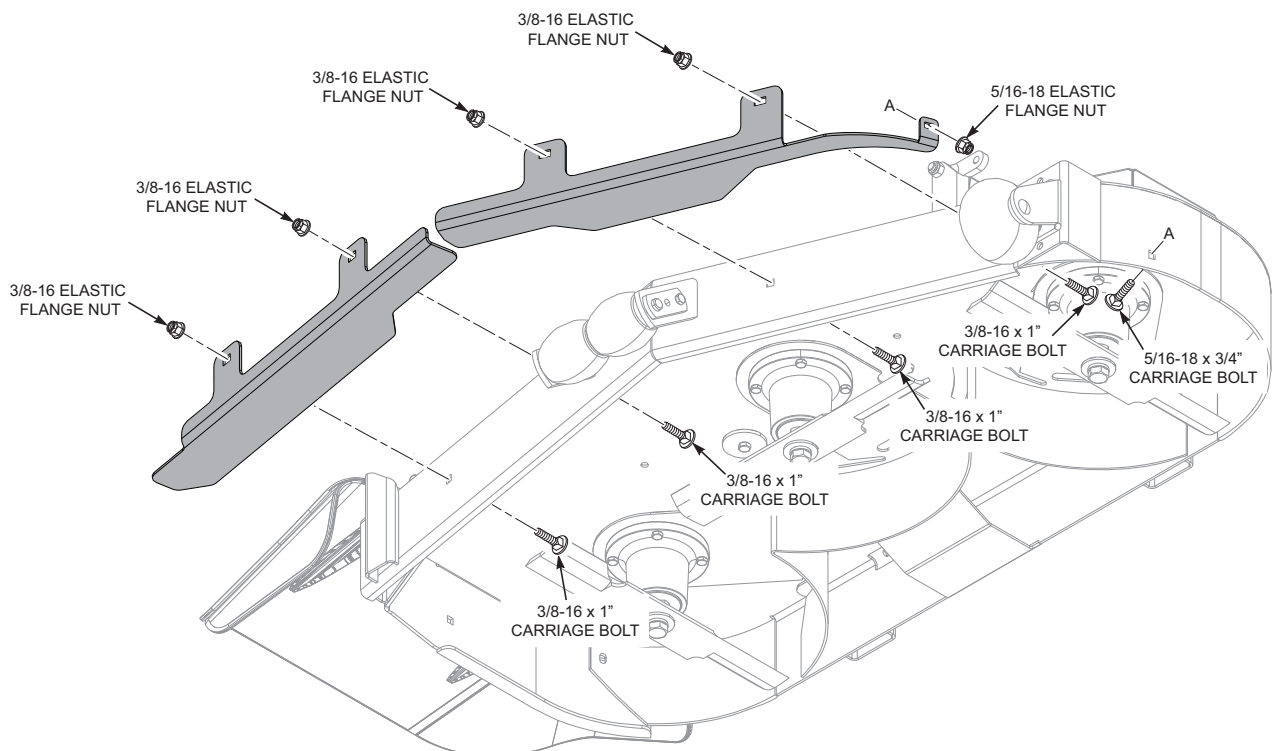

Figure 1
3. Install the front blowout baffle(s) to the cutter deck as shown. Secure using 3/8-16 x 1" carriage bolts, 3/8", 3/8-16 flanged elastic stop nuts, 5/16-18 carriage bolts and 5/16-18 flanged elastic stop nuts. See Figure 1 (48" deck shown).